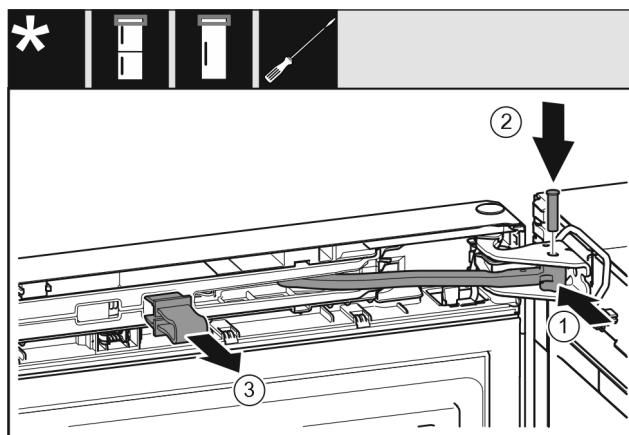

Fig. 50
- ▶ Turn the hinge in the bearing bracket. *Fig. 50 (1)*
- ▶ Insert the bolt in the bearing bracket and hinge. Make sure that the latching lug sits correctly in the groove. *Fig. 50 (2)*
- ▶ Remove the locking device. *Fig. 50 (3)*